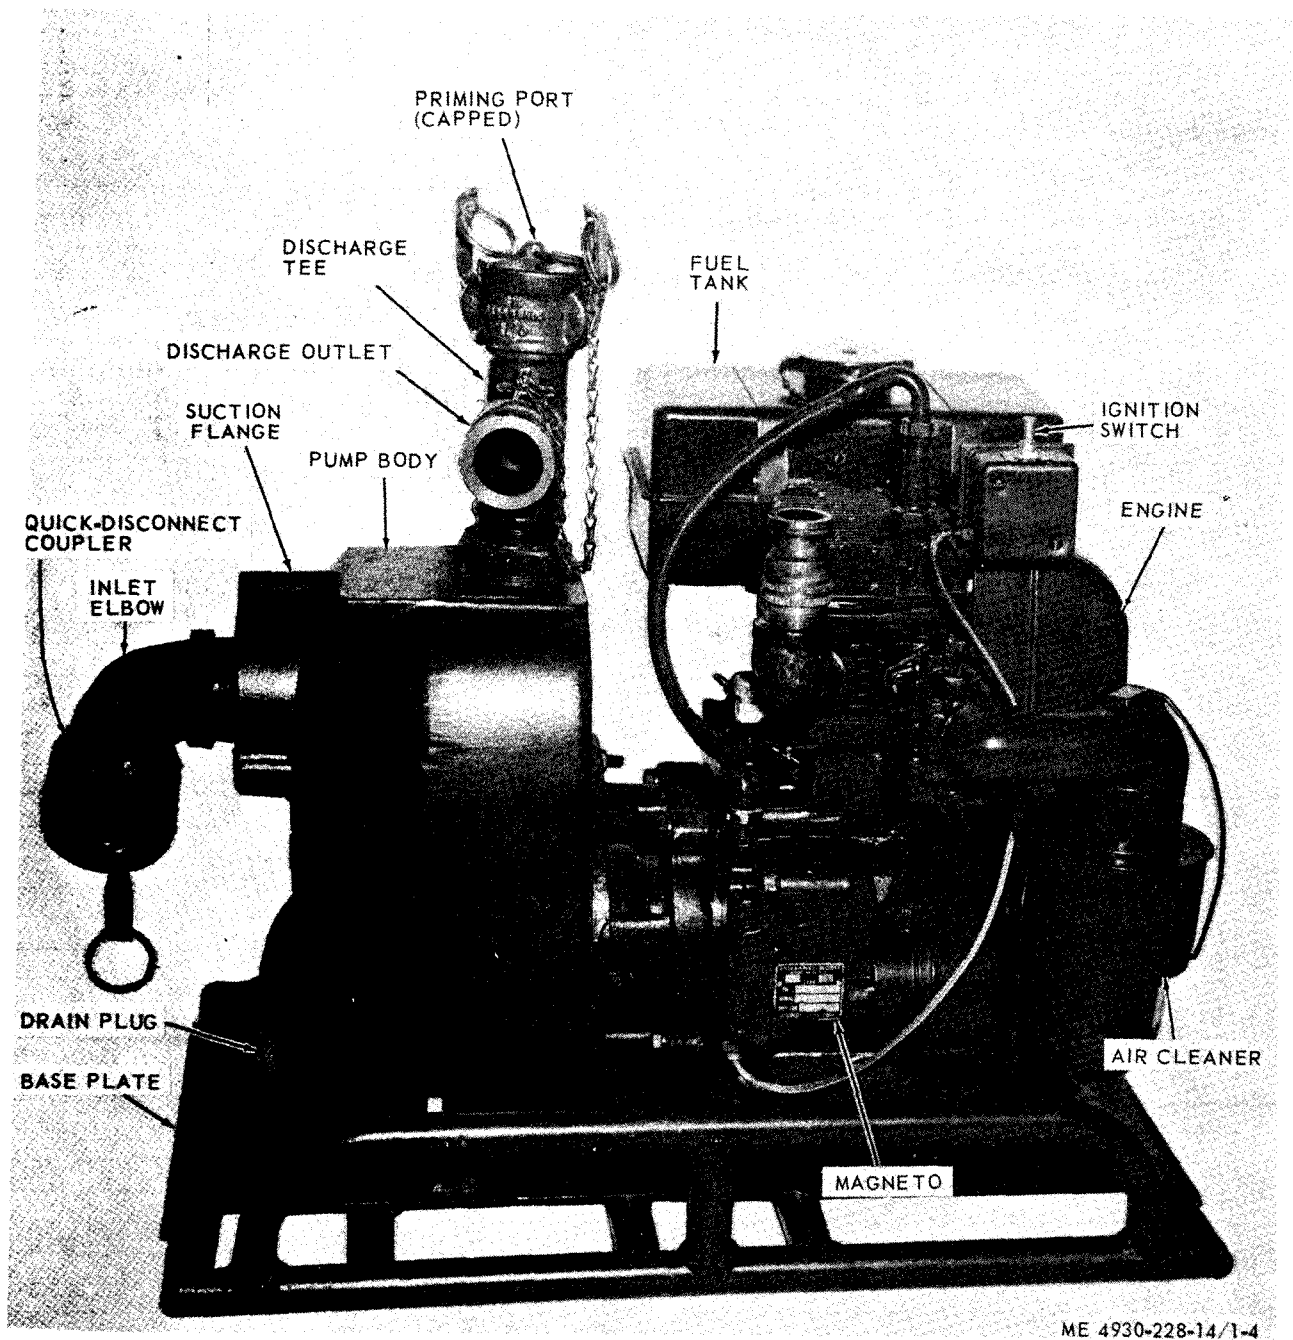

Figure 1-4. Pump and engine assembly, three-quarter view.
c. *Pump.* The pump (fig. 1-4) is self-priming unit, with the impeller screwed directly on the extension of the engine crankshaft. The pump and
(8) Prime pump through priming port (fig. 1-4) if necessary.